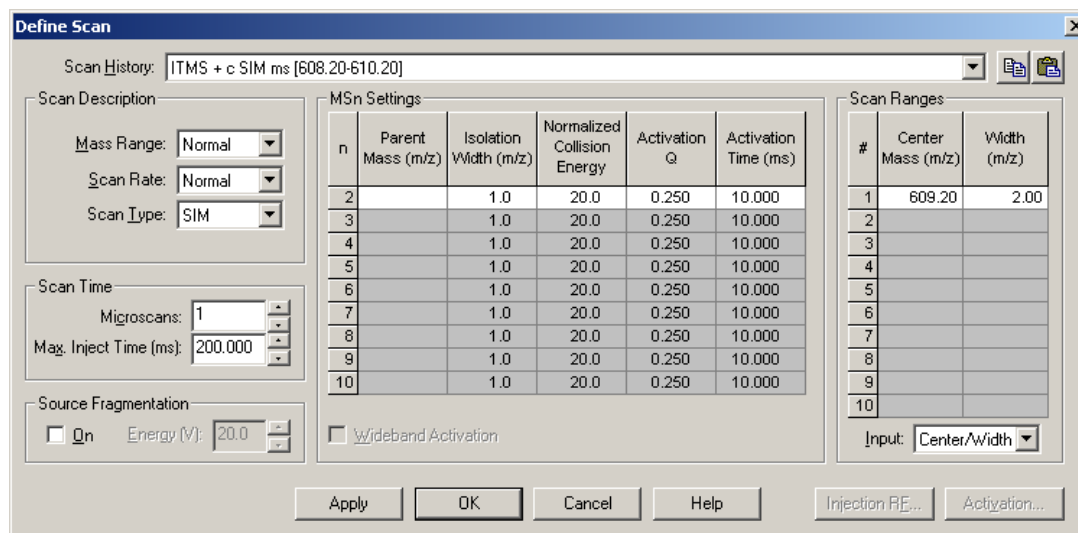

Figure 64. Define Scan dialog box, showing typical settings for acquiring data in the SIM scan mode
- Click **Define Scan** to open the Define Scan dialog box. Figure 64